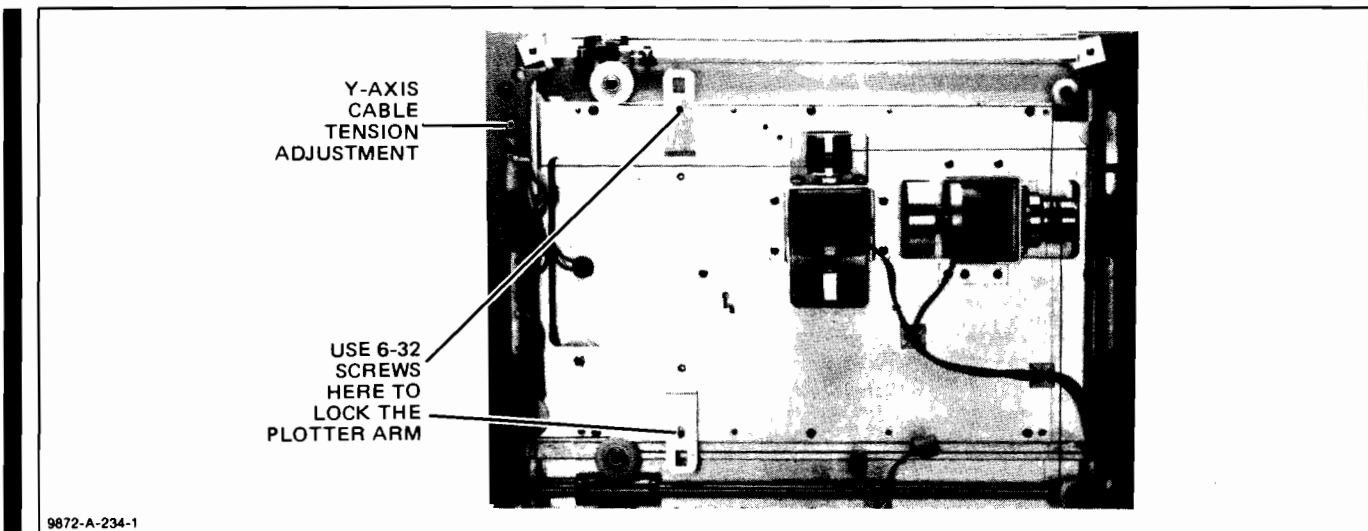

Figure 6-15. Underside View of Top Desk Assembly
- a. Place the pen carriage at the center of the arm, and position the arm over the deck locking assembly and fasten with two 6-32 screws. See Figure 6-15.
- k. Release the tension on the Y-axis cable by loosening the cap screw in the cable tensioner and remove the cable. See Figure 6-15.